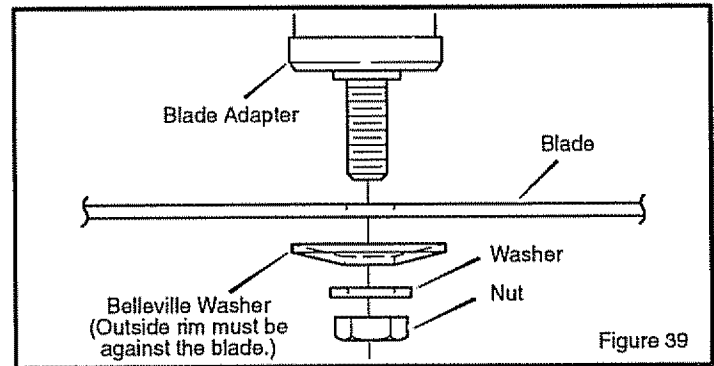

Figure 39
8. Fasten the blade with the original washers and nut. Make sure the outside rim of the Belleville washer is against the blade (Figure 39).